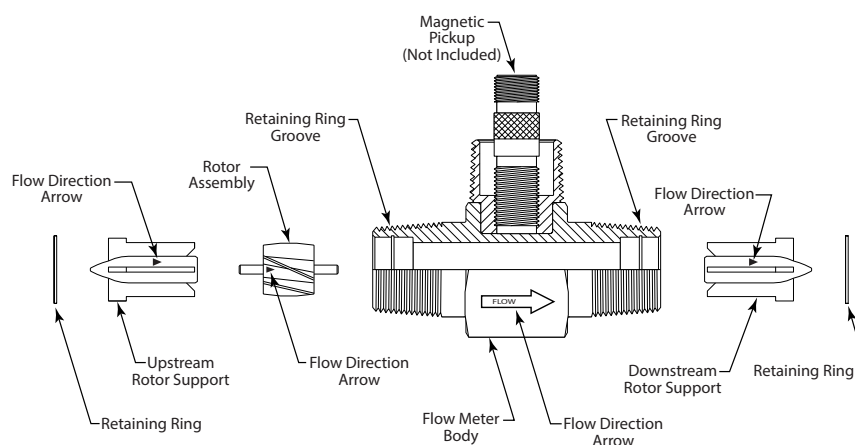
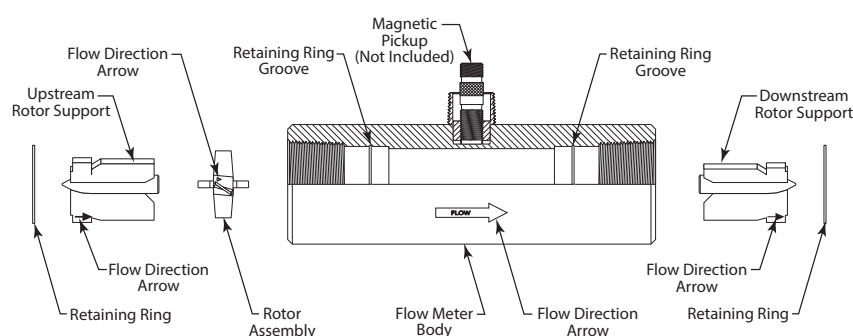
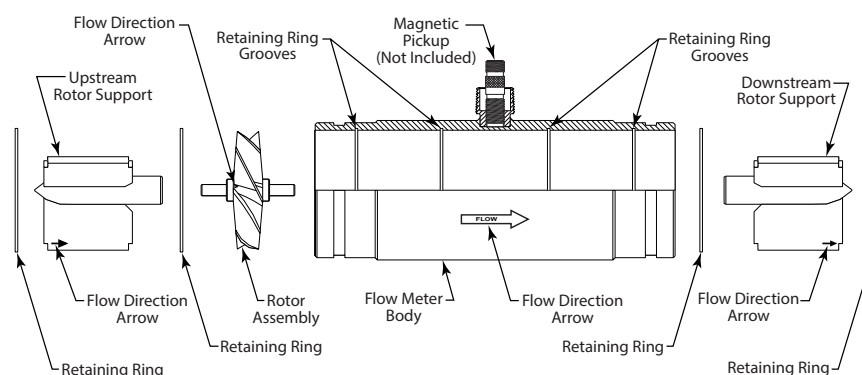

Figure 7: Component positions for B110C-375...B111C-115 and B111C-121
Figure 8: Component positions for B111C-120 and B111C-130
Figure 9: Component positions for B111C-140 and B111C-200
1. Refer to Figure 7, Figure 8 and Figure 9 for relative positions of repair kit components.
**NOTE:** 4 in. and larger meters have two retaining rings (one on either side of the rotor) that require removal before the rotor can be removed (see Figure 9).
*Before reassembly, note that an arrow is cast or engraved on each component. The arrow indicates the primary flow direction. When reassembled, the arrowheads must point in the direction of the fluid flow. The arrows must also be oriented in the up position on both rotor supports. The magnetic pickup side of the body signifies the up position. Performance of repair kit calibration is in the up position. Reinstallation of the repair kit in the up position ensures continuation of accurate measurements. Figure 7, Figure 8, and Figure 9 show the proper alignment and orientation of the repair kits.*
**NOTE:** 4 in. and larger meters have a retaining ring at both ends of the rotor (see Figure 9).